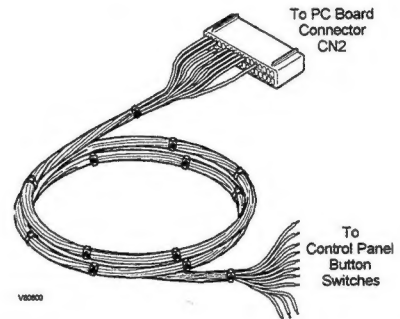

Figure 6: Auxiliary Cable Harness
22. Connect the player 1 and the player 2 stand buttons to the auxiliary cable harness as shown in figure 6. Make the connections according to the chart in table 2 on page 17.